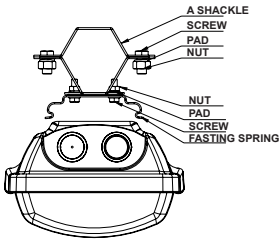

Fig. 2
- b) using a wire hook – not included in the fittings (Fig. 2)